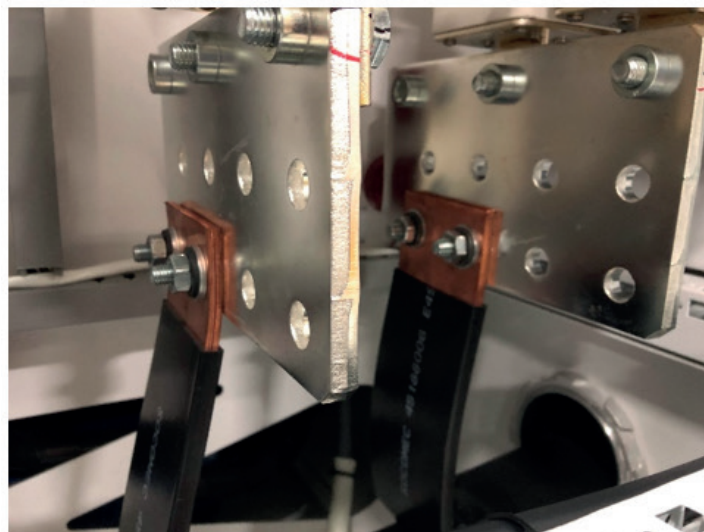

Figure 71. Flexible Busbar to C-Cab XXL Terminal Connection
- c. Connect the flexible busbar and torque as specified for electrical connections use as a reference Table 13. Refer to Figure 71 for flexible busbar connections terminals inside the C-Cab XXL. The right side is the (+) positive terminal.